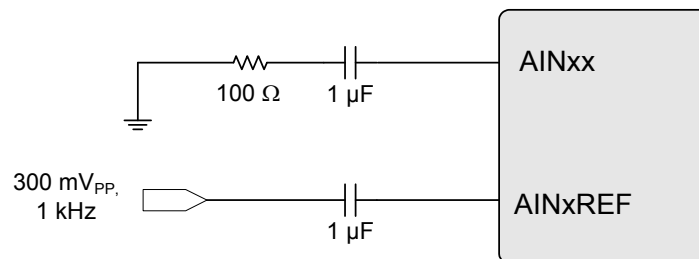

Figure 5. AINxREF Input Voltage Test Configuration
10. Providing a signal level higher than 300 mVpp on the AINxREF pin may degrade the PGA linearity and adversely affect analog input performance. See Figure 5.